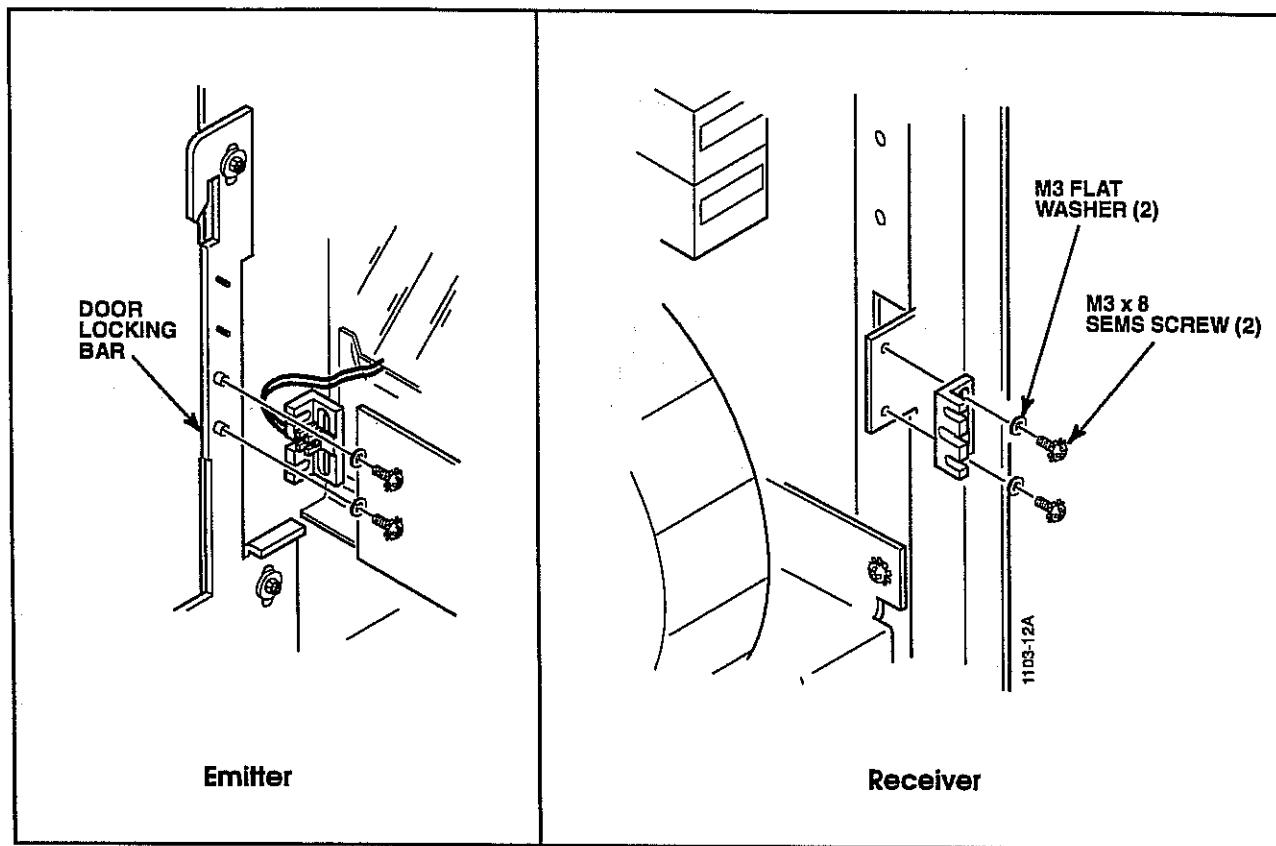

Figure 5-7. Optic Door-Open Sensor Mounting.
2. Disconnect the 2-pin emitter harness located approximately four inches from the emitter, and remove the ty-rap that secures the harness to the lance near the center of the locking-bar. (See Figure 5-7)
Figure 5-7 shows the location of optic door-open sensor components. Refer to the wiring diagram at the end of this section for harnessing configuration for the emitter and the receiver.
To remove or install the optic emitter and/or receiver, see Figure 5-7 and proceed as follows.
- a. Position the optic emitter mount on the locking bar flange so that the optic sensor points toward the machine (with the door open) and the flange on the mount is in back of the optic (Figure 5-7). Align the holes in the locking bar with the slots in the bracket.